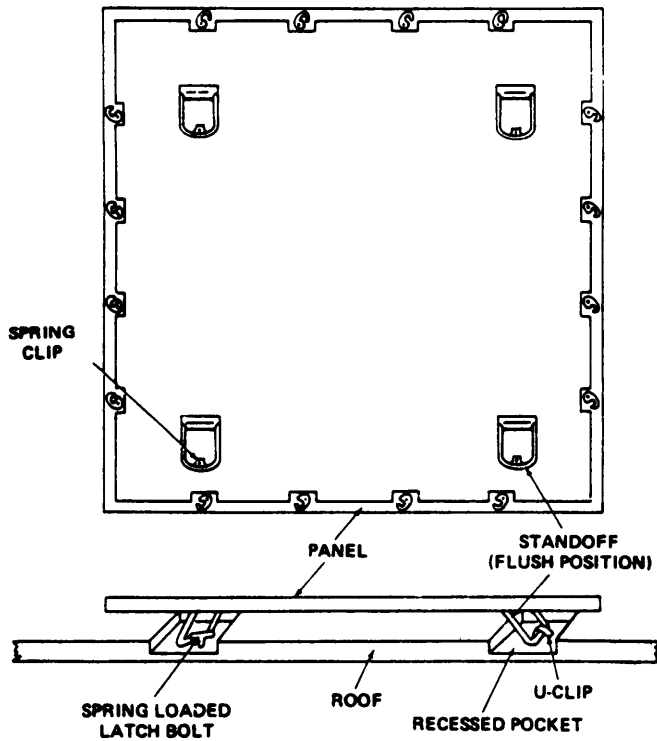

Figure 2-2. Panel Roof Storage.
c. *Panel Roof Storage.* The panels removed from the shelter are stored on the roof and secured in place by U-clips and latch bolts located in recessed roof pockets (fig. 2-2). In hot sunny climates, the panels act as a solar shield, thus providing additional protection from the sun. The panels are secured to the roof by locking the standoffs in the four recessed roof pockets as follows:
(1) Release panel standoffs from flush position (fig. 2-2).
(2) Release the two spring ded latch bolts, in recessed roof pockets, by sliding the bolt side-ways and lifting up to unlocked position.
(3) Secure one end of panel by hooking two stand-offs in recessed pocket containing U-clips.
(4) Lower the two remaining standoffs into recessed pockets containing latch box: Release latch bolts to lock (down) position to secure panel of roof.
(5) Repeat above procedure for additional panel storage.